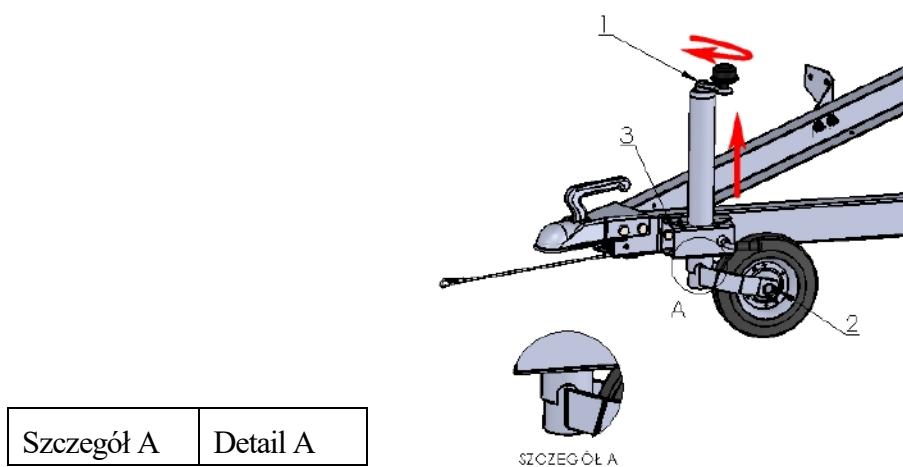

Fig. 4. Jockey wheel handling
- 1) Rotate the crank handle 1 of the jockey wheel clockwise, until the bolt is completely screwed in and the supporter placed in the notch of the external tube (Detail A Fig. 4).
- 2) Open the clamp bracket 3 and raise the jockey wheel 2 fully upwards (Fig. 4).
- 3) Close the clamp bracket 3 (Fig. 4).